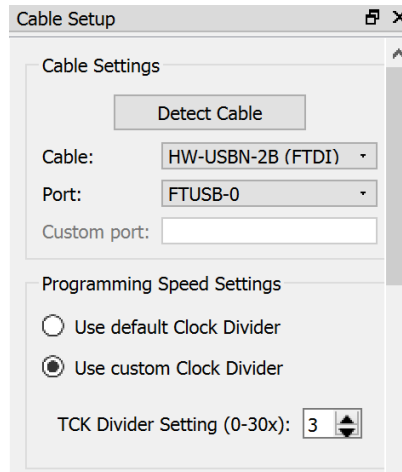

Figure 8.1. TCK Frequency Setting
- If you are getting a verification error while dumping the .bit file, try changing the TCK frequency to a value greater than 4. The TCK Divider Setting option is in the Cable Setup dialog box of the Lattice Radiant Programmer Window, as shown in Figure 8.1. Restart programming by clicking the Program button as shown in Figure 5.16.